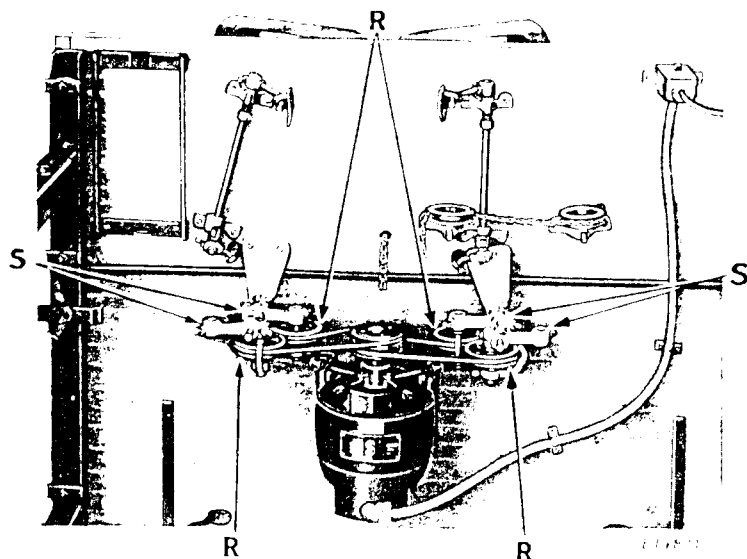

Fig. 4. Underside of Table, Showing Location of Idlers, Treadle Chain Guides and SINGER Electric Transmitter Motor for Class 71- Machines when Operated in Pairs
To install one motor for driving two machines run in pairs, the motor should be mounted directly below the center line between the two machines with the tight machine pulley towards the front of the table as illustrated in Fig. 4. The belt idler pulleys (R, Fig. 4) must be mounted on their arms (S) as illustrated in Fig. 4 and the chain pulleys mounted according to the blueprint furnished with the machine. When individual motors are used for each machine in pairs, there are no belt idlers used under the table and the motors are set directly below the machine pulley and on the same angles that each machine is set with respect to the table.